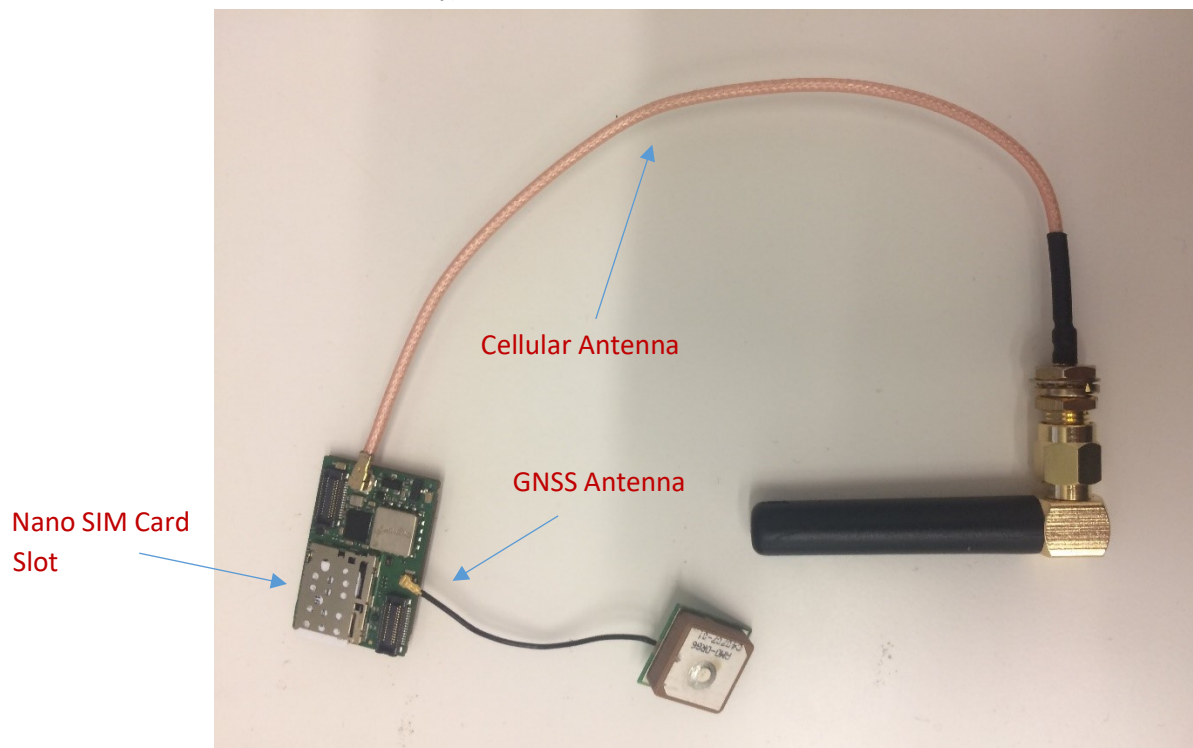

Figure 1 – connection of ORG2101 antennas and SIM card
1. Insert nano SIM card to its slot. See figure 1.
2. Connect GSM/LTE antenna to the U.FI connector OriginIoT, See figure 1.
3. Connect GNSS antenna to the W.FI connector on OriginIoT, See figure 1. (Required only if user wants to evaluate GNSS functionality)